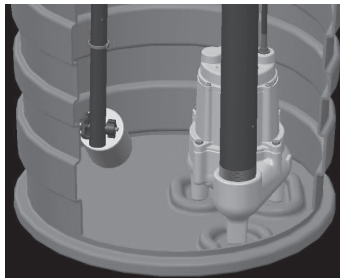

Figure 1
Observe position of pump. The pump should be upright with standoff feet located within the three (3) integral torque stops (Figure 1).